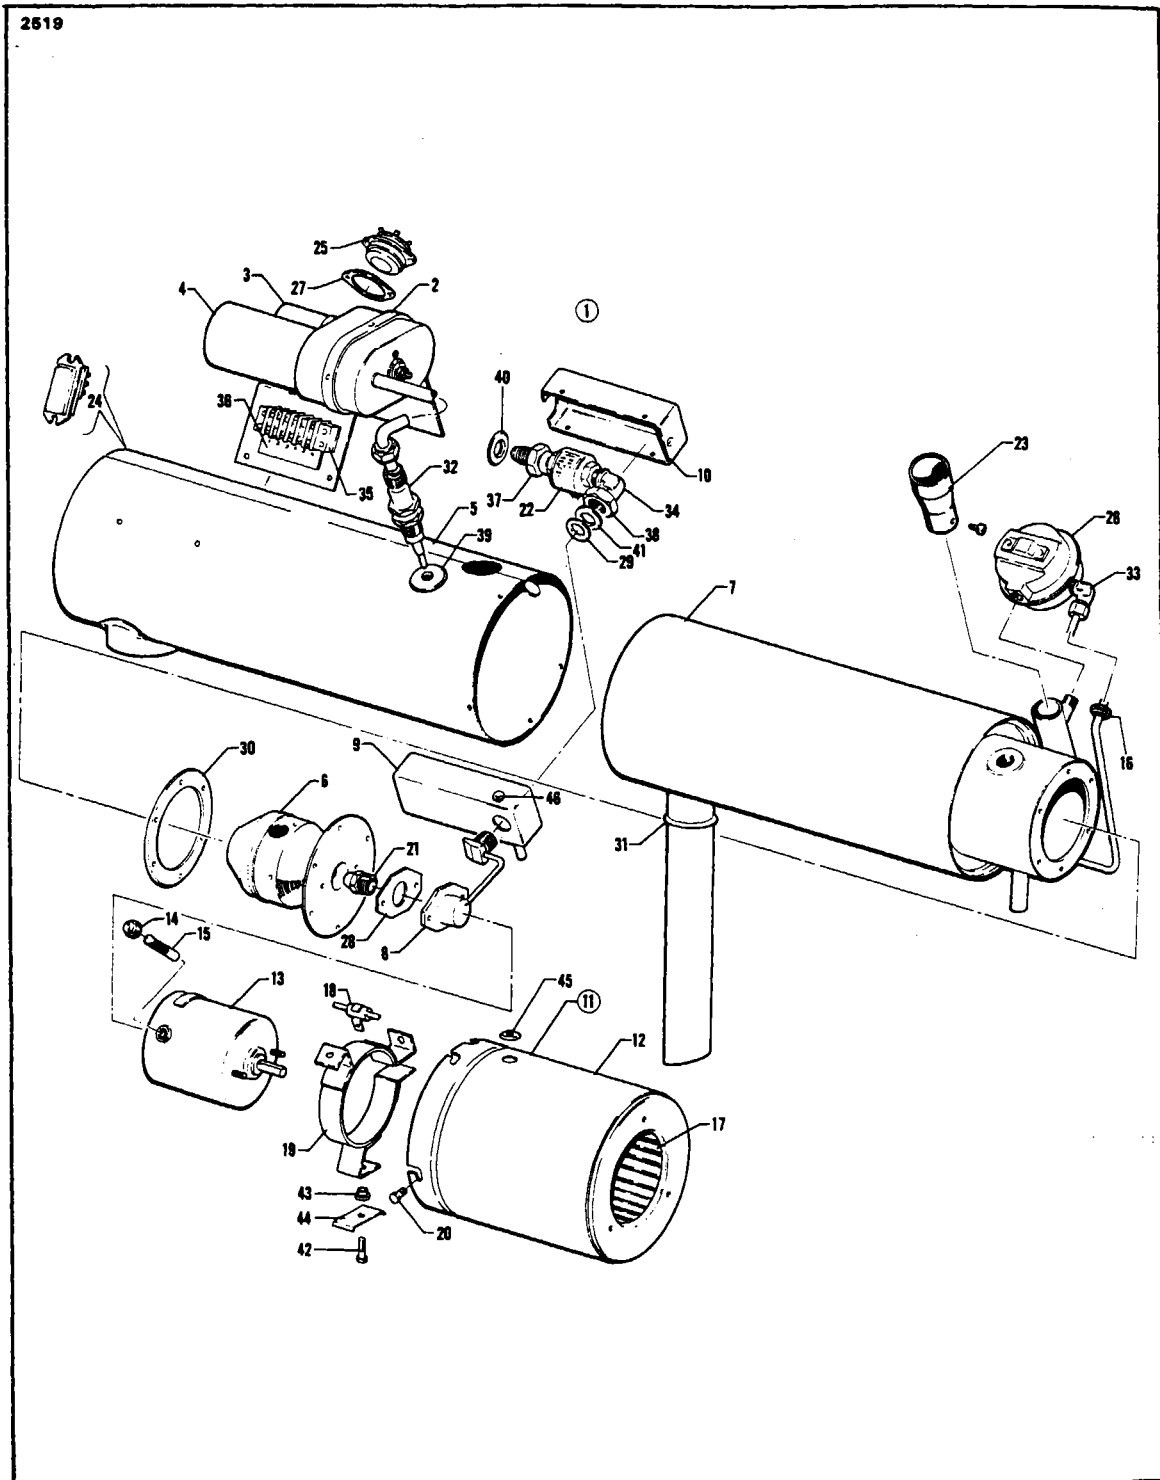

Figure 13-47. Exploded View of Heater Assembly No. 755 257 (28-Volt)
13-175. REASSEMBLY. (Refer to Figure 13-47.)
k. Install a new gasket (30) and combustion head (6) in the combustion tube (7) and secure with the six screws.
l. Insert the fitting on end of nozzle fuel tube through the opening in the jacket (5) and attach the nozzle holder to the combustion head assembly (6) with the two screws. It may be necessary to place a slight bend in the shrouded fuel tube to permit alignment of screw holes. Be sure to use a new gasket (28).
m. Using a new spark plug gasket, install the spark plug (32) and tighten to a torque of 28 foot-pounds. Install the grommet (34) in the jacket around the spark plug.
n. Install the ignition assembly (2) on the jacket assembly (5) with the four screws. Connect the high voltage lead to the spark plug and tighten it to 20 foot-pounds.
o. Attach the overheat limit switch (25) and spacer gaskets (27) to the jacket assembly (5) with two screws. Tighten the screws securely.
p. Attach the cycling switch (24) and bracket to the jacket with the six screws.
q. Place the terminal strip insulation (36) in position on the jacket (5), followed by the terminal strip (36). Secure both parts by installing the two screws.
r. Center the fuel fitting in jacket opening. Position the fuel fitting shroud gasket (29), washer (41) and shroud (9); then install the nut (38) finger tight. Insert a 3/4 inch open-end wrench inside the jacket and hold the fuel-tube fitting while tightening the nut (38) with a 3/4 inch deep socket. Install the fuel solenoid elbow (34) and solenoid (22). Avoid twisting or damaging lead. Install wires through grommet in lower shroud (9).
- s. Rotate the combustion air switch (26) onto the threaded fitting on the combustion air tube and tighten it firmly.
- t. Slide the grommet (16) over the combustion air tube and connect the tube to the elbow fitting (33) on the combustion air pressure switch (26).
- u. Install the wiring harness and connect all wire leads to their respective terminals. (Refer to the wiring diagram, Figure 13-41.) Place the grommet (45, Figure 13-47) in position in the jacket (5); locate the ventilating air blower (11) at the end of the jacket. Thread the quick-disconnect on the motor lead through the grommet and connect it to the mating connector on the wiring harness.
- v. Place the blower housing in position on the jacket assembly (5) and secure it by installing the four screws (20), if removed at disassembly. This operation is easier if the screws (20) are started into their threads and the blower housing rotated into place, allowing the screws to enter the notched openings in edge of blower housing. Tighten all screws securely.
- w. Install the adapter (23) with the screw.
- x. After heater is installed in the aircraft and the fuel line is connected, install the upper fuel shroud box (10) with the screws. Ascertain grommet (40) is installed.
CALLOUTS FOR FIGURE 13-47